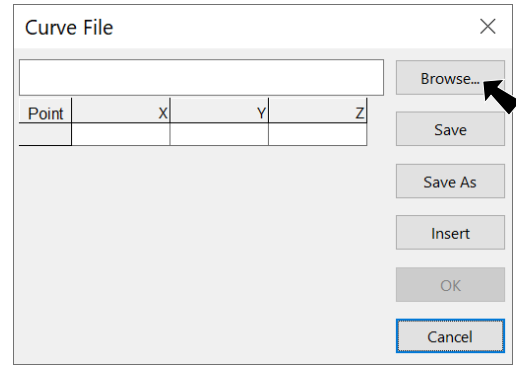

Fig. 13
Step 4. In the Curve Point dialog box: click **Browse** button, Fig. 13